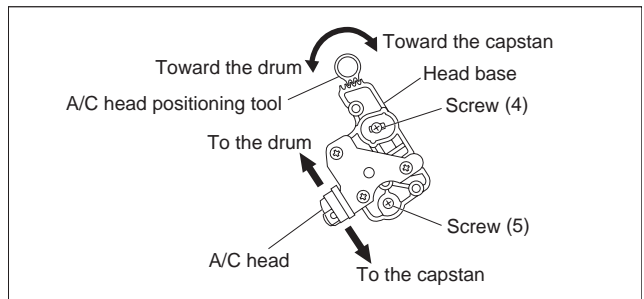

Fig.3-3-4a
- Apply the external trigger signal to D.FF (E), to observe the V.PB FM waveform at the measuring point (D).
- Loosen the screws (4) and (5), then set the A/C head positioning tool to the innermost projected part of the A/C head. (See Fig. 3-3-4a.)
- Turn the A/C head positioning tool fully toward the capstan. Then turn it back gradually toward the drum and stop on the second peak point position of the V.PB FM waveform output level. Then tighten the screws (4) and (5).
- Perform the tracking operation and make sure that the V.PB FM waveform is at its maximum. If it is not at maximum, loosen the screws (4) and (5), and turn the A/C head positioning tool to bring the A/C head to a position, around where the waveform reaches its maximum for the first time. Then tighten the screws (4) and (5).